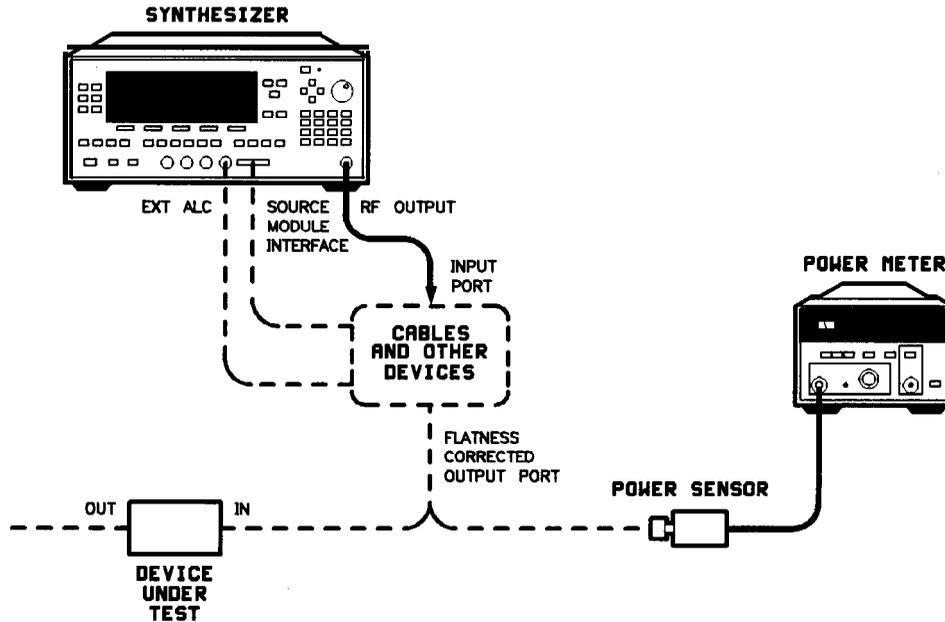

Figure 1-19. Creating a User Flatness Array
There are two basic front-panel methods of creating a flatness correction array. The first and quickest method is to use an HP 437B power meter. Refer to Figure 1-18 for the setup. The second method is just as accurate, but requires a little more interaction between the operator and the instruments. Figure 1-19 shows the setup for the second method.
1. The equipment setup shown in Figure 1-19 assumes that if your setup has an external leveling configuration, the steps necessary to correctly level have been followed. If you have questions about external leveling refer to earlier paragraphs titled, "Externally Leveling the Synthesizer ."